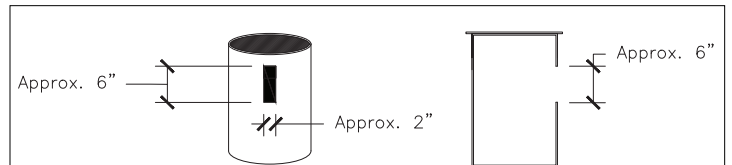

Figure 4. Sump pump Hydraway cut dimensions.
5. Cut the sump pit rectangularly to the outside dimensions of the Hydraway and slide the two ends into the side of the pit. Hydraway should extend at least 1 inch into the pit (See Figure 4).